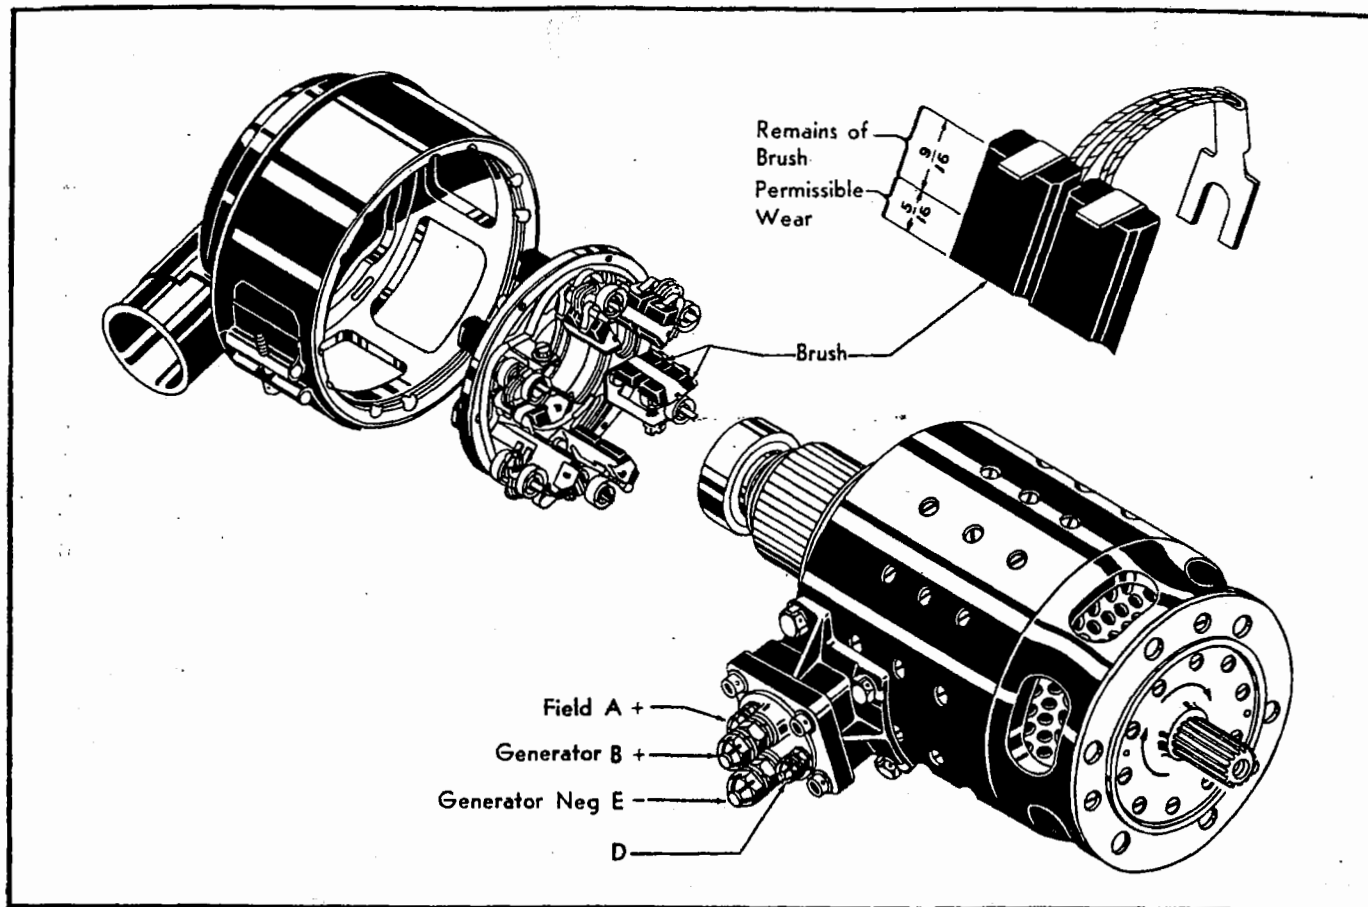

Figure 5-1. Generator Brush—Permissible Wear.
5-17. DESCRIPTION. (See figures 5-1 and 5-5.) The General Electric aircraft generator is an engine-driven, air cooled prime power source for the 28 volt dc electrical system. Aircraft Bu. Nos. 121793 through 121892 are equipped with 2CM63B4 generators; aircraft Bu. Nos. 121893 and subsequent are equipped with 2CM70C1A generators. These generators are identical except for minor external modifications. It delivers
- b. Permissible wear for brushes is 5/16 inch, leaving 9/16 inch remaining length of the brush; see figure 5-1. Brushes should be replaced at each 60 hour check, even though maximum wear has not occurred, in order to insure proper operation during the next 60 hours. New brushes should be broken in with generator running at 3,000 rpm. They should seat easily into the brush retainer. Clean dirt from brushes, or corrosion from retainers, with a cloth moistened in unleaded gasoline or other suitable solvent. Let the brushes dry thoroughly before they are put back, and always be sure they are put back exactly as they came out.
f. Connect the generator wiring. See figure 5-1 for proper terminal connections.